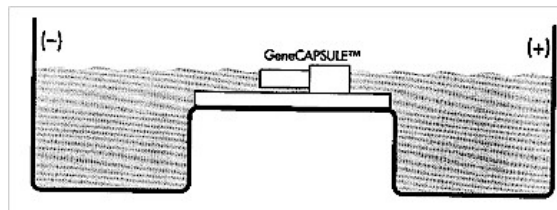

Fig. 6
2. Submerge the assembled *GeneCAPSULE™* in TAE buffer on top of the gel bed of the electrophoresis box such that the *Gene-TRAP™* is facing the (+)-terminal (red color terminal). Add buffer into the gel electrophoresis box just high enough to cover the *Gel-PICK™* (If possible, use pre-chilled buffer). Remove some buffer if the *GeneCAPSULE™* floats (Fig.6).
WARNING: Make sure the *Gene-TRAP™* is facing the (+)-terminal so that the DNA would not migrate out into the tank buffer (see Fig. 6).